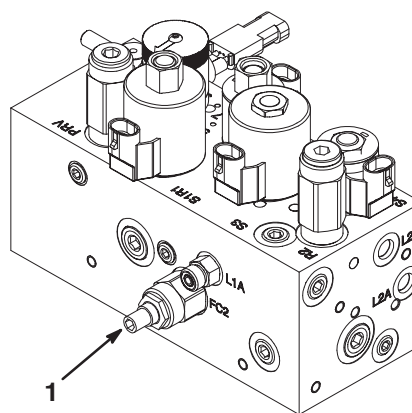

Figure 55
The cutting unit lift/drop circuit is equipped with a flow control valve (Fig. 55). This valve is preset at the factory but an adjustment may be required to compensate for differences in hydraulic oil temperatures, mowing speeds, etc. If an adjustment is required, proceed as follows:
1. Raise the seat and locate the flow control valve for the center pull frame (Fig. 55) which is located on the side of the hydraulic manifold.